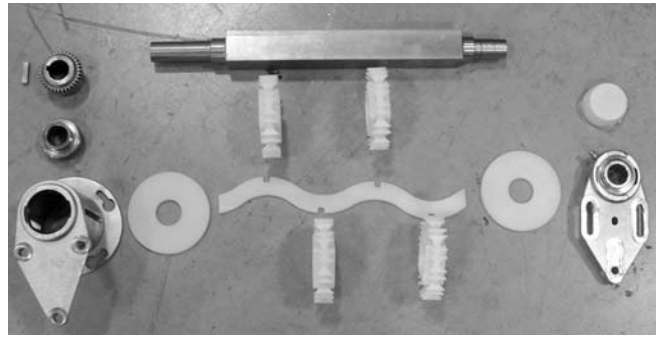

Figure 60
- Replace components, as needed (**Figure 60**).